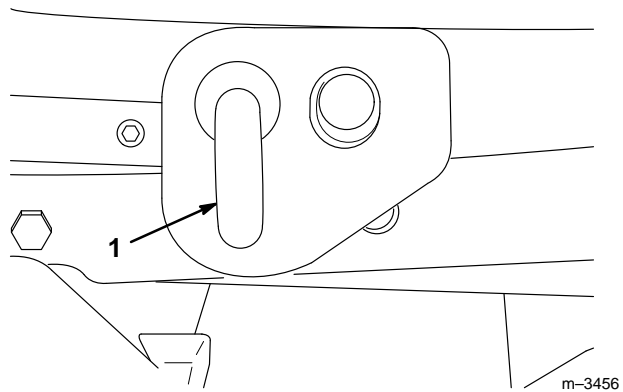

Figure 23
- 10. Pull the two spring-loaded J-pins from the deck lift arms and twist them slightly so that they stay disengaged (Fig. 23).